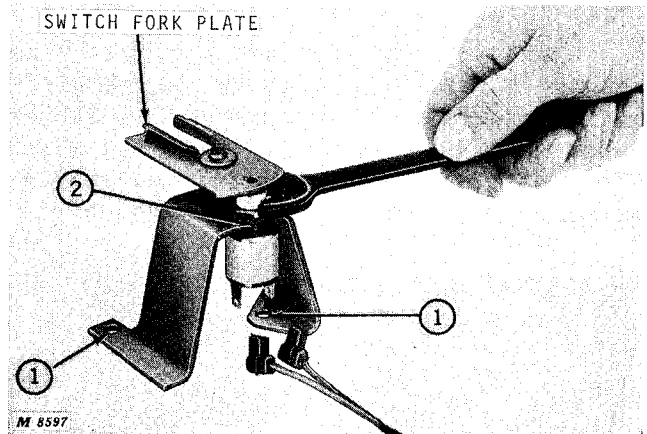

Fig. 13-Adjusting Neutral-Start Switch
1. When the shift lever is in the neutral position, it must move forward and rearward without striking either side of the switch fork plate. If the lever strikes and moves the fork, loosen the two bolts holding the switch bracket to the transaxle and shift the bracket until the shift lever does not strike the switch fork. Tighten bolts firmly, Figure 13.